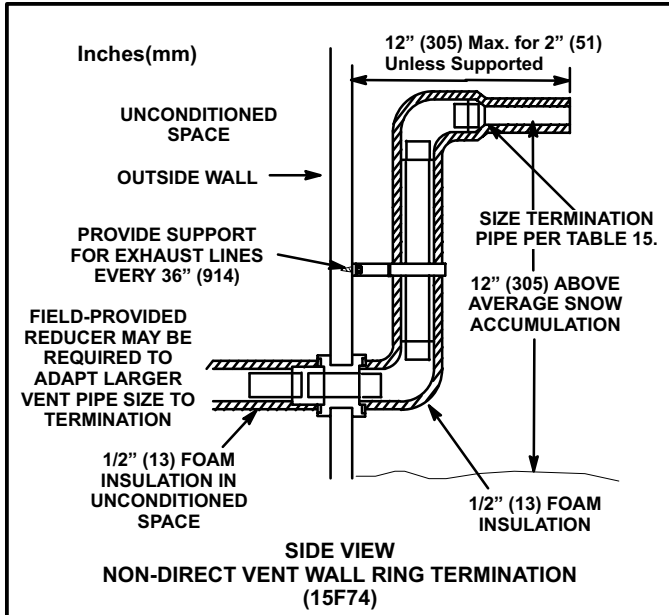

FIGURE 38
3. If exhaust piping must be run up a side wall to position above snow accumulation or other obstructions, piping must be supported every 3 feet (.9m) as shown in figure 18. Refer to figure 38 for proper piping method. When exhaust piping must be run up an outside wall, any reduction in exhaust pipe size must be done after the final elbow.